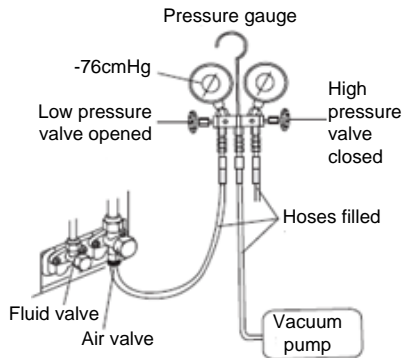

Figure 7-4 Vacuum pump connection diagram
(2) Vacuum pump:
- ① Connect the filling hose to the fluoride injection mouth of the air valve. Ensure that the valve cores of the air valve and fluid valve are tightly closed.
- ② Connect the joint of the filling hose to the vacuum pump, as shown in Figure 7-4.
- ③ Fully open the low pressure valve of the pressure gauge.
- ④ Start the vacuum pump to vacuumize the air for 20 minutes or more, and ensure that the pressure gauge pointer points to  $-1.0 \times 10^5 \text{ Pa}$  ( $-76\text{cmHg}$ ). Close the low pressure valve, and stop running the vacuum pump. Wait 2 minutes. If the number indicated by the pressure gauge pointer does not rise, the vacuumization and piping are successful. If the number indicated by the pressure gauge pointer rises, it indicates that air is entering the system. In this case, check the piping for leaks, and vacuumize the air again.
- ⑤ Remove the filling pose from the air valve.
- ⑥ Fully open valve cores of the gas valve and fluid valve.
- ⑦ Tighten the valve caps of the air valve and fluid valve, and the fluoride injection mouth nut.
- ⑧ Tighten the valve caps, and then use a leak detector or soapy water to check whether the pipes for connecting the outdoor unit and the water tank leak.